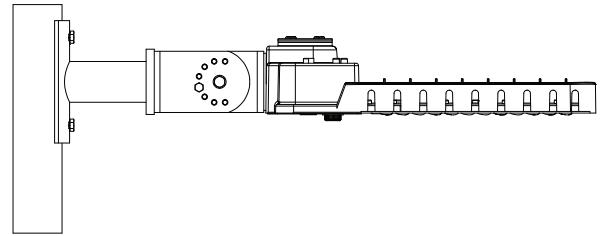

FIG. 15
2. Loosen the center bolts and the adjusting screws on the sides of the trunnion mount. Adjust the fixture to the desired angle, maximum is 60° (see **FIG. 15**).